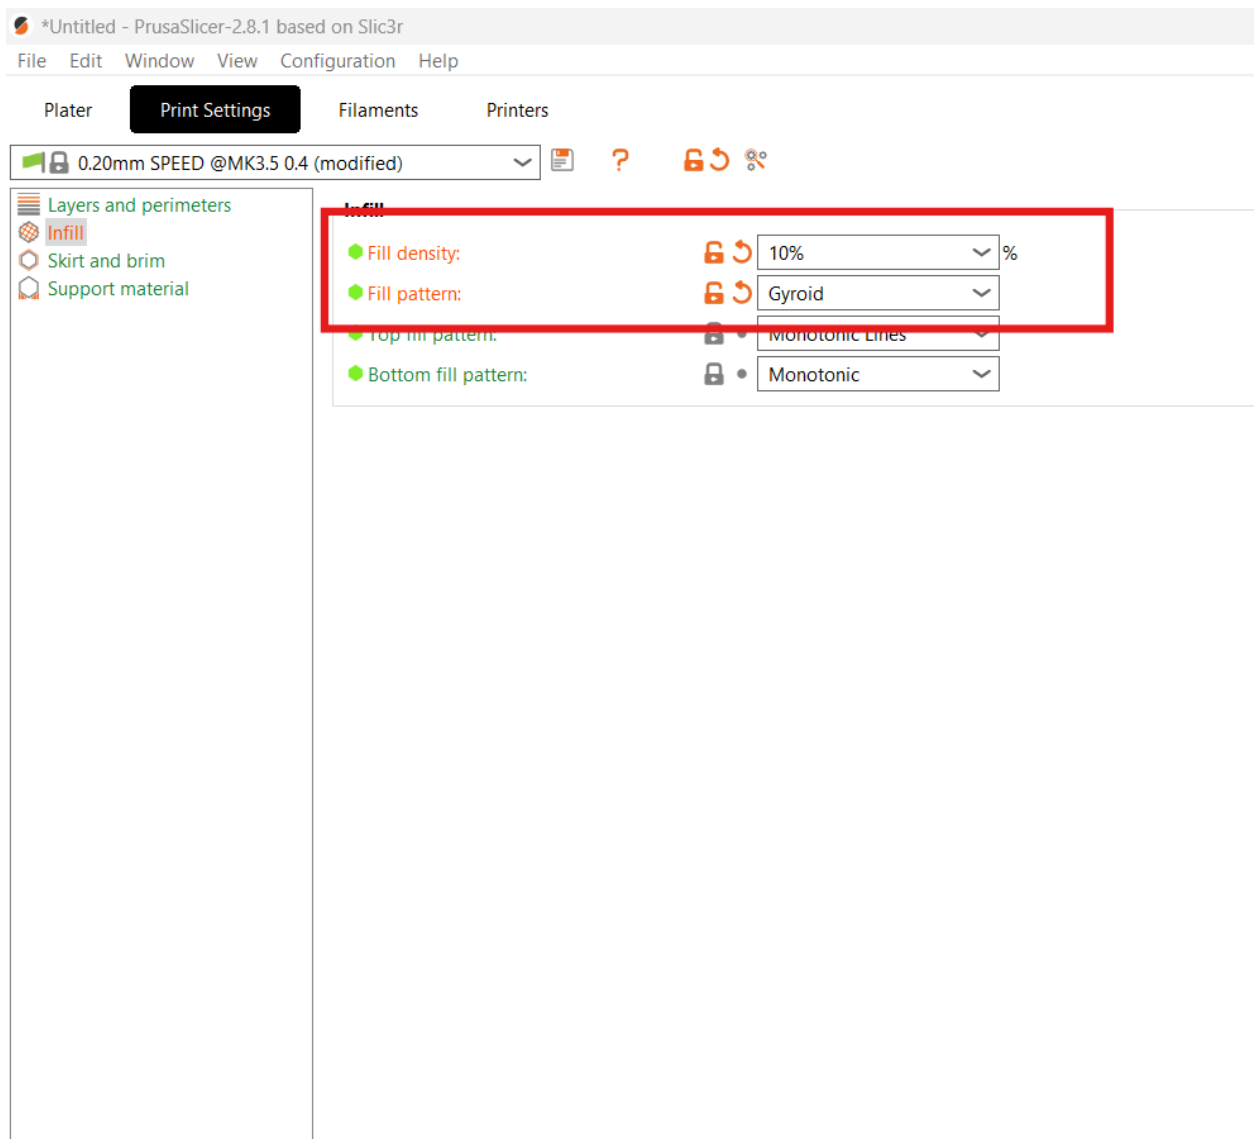

Figure 3. Adjusted Infill Settings.
5.) Change the fill density to 10% and the fill pattern to Gyroid (see red box in Figure 3).